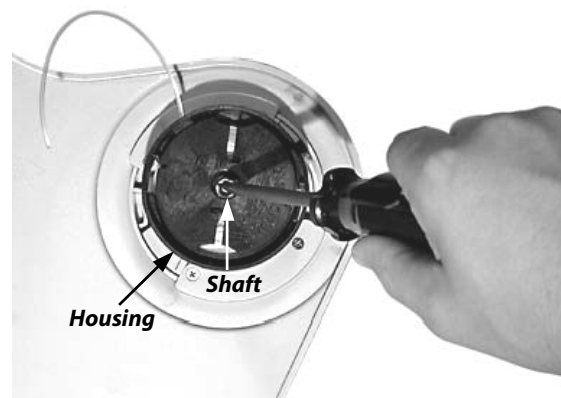

Figure 40
2. Using a flat-head Screwdriver, hold the Shaft in place (**Figure 40**) so it won't turn and unscrew (counterclockwise) the Spool Housing with your hand and remove it.